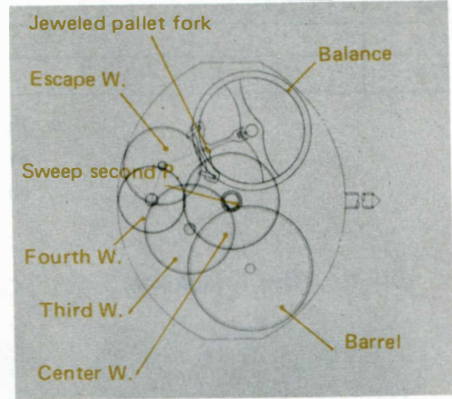

Fig. 4
(1) Train wheels
- The arrangement of the train wheels for Cal. No. 67\*\* and Cal. No. 68\*\* differing from conventional ladies' watches has been reversed (left and right side inverted) in order to improve the accuracy when they are worn by giving an ideal pinningpoint of the hairspring on them. (Fig. 4)